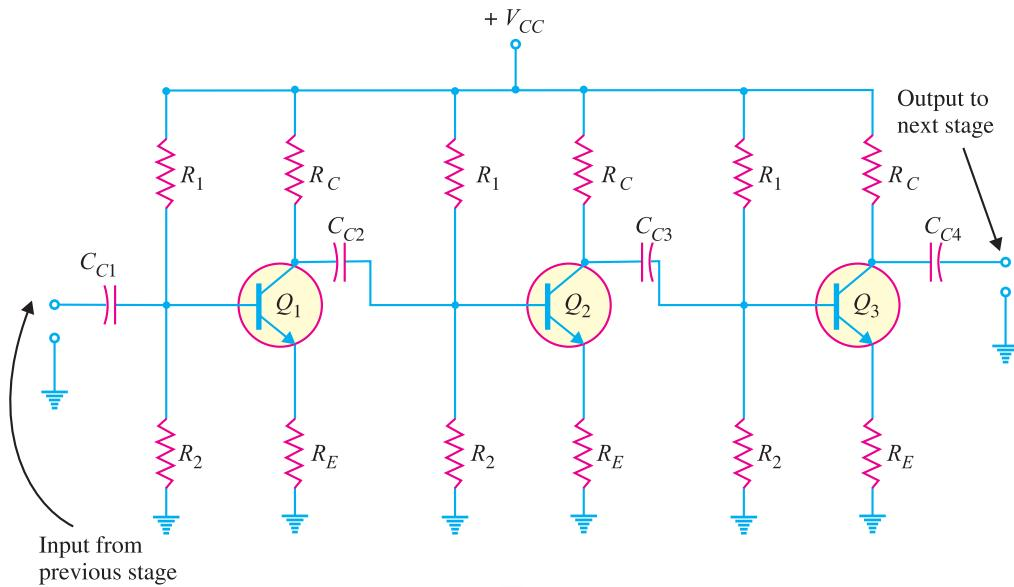

Fig. 11.2
1. As coupling capacitors. In most applications, you will not see a single transistor amplifier. Rather we use a multistage amplifier *i.e.* a number of transistor amplifiers are connected in series or cascaded. The capacitors are commonly used to connect one amplifier stage to another. When a capacitor is used for this purpose, it is called a *coupling capacitor*. Fig. 11.2 shows the coupling capacitors (C_{C1} ; C_{C2} ; C_{C3} and C_{C4}) in a multistage amplifier. A coupling capacitor performs the following two functions :